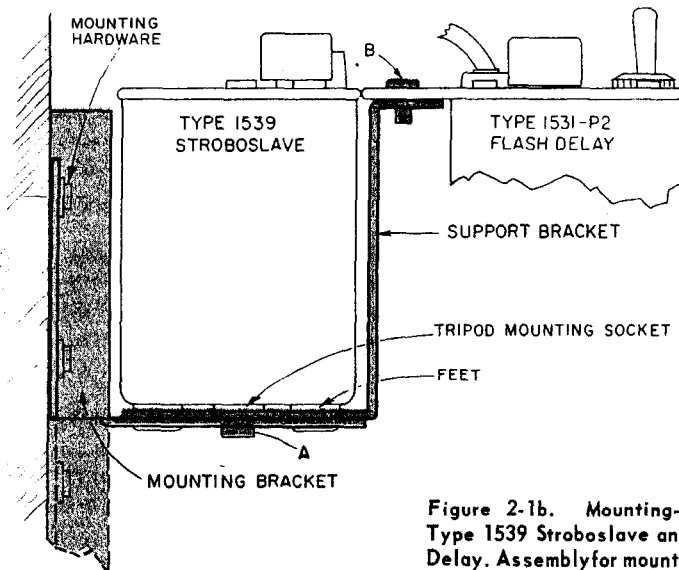

Figure 2-1b. Mounting-bracket assembly for Type 1539 Stroboslave and Type 1531-P2 Flash Delay. Assembly for mounting on vertical surface.
a. Nest the Stroboslave feet in the four 9/16" diameter holes in the bracket assembly as shown in Figure 2-1b, and tighten screw (A) securely. If the Flash Delay unit is not to be mounted with the Stroboslave, the bracket-assembly hardware and the support bracket may be omitted.
b. Mount the Flash Delay unit to the support bracket, using two screws (B) as shown.
To mount the instruments on a vertical surface, proceed as follows (see Figure 2-1b):
a. Omit the bracket-assembly hardware and assemble the Stroboslave, mounting bracket, and support bracket (as shown in Figure 2-1b), using screw (A).
b. Mount the Flash Delay unit to the support bracket using screws (B) as shown. If the Flash Delay is not to be used, omit the support bracket.
When mounting on a vertical surface, the position of the mounting bracket can be reversed (see dotted outline, Figure 2-1b).